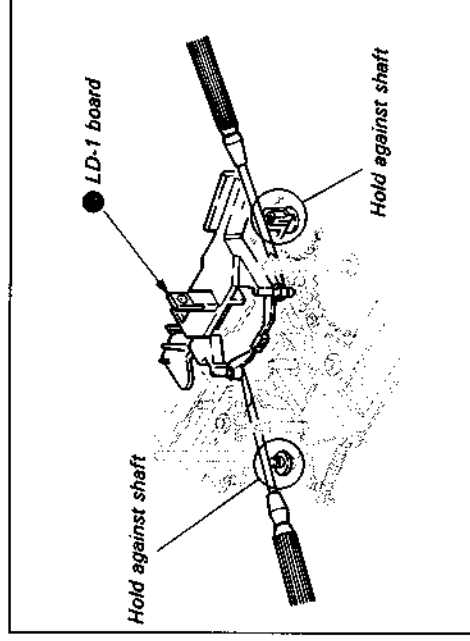

Fig. 7-37.
7-3-14. M-SW Assembly (See Fig. 7-37 ~ 39)
- 2) Remove stopper washer ● and the drive gear (B) assembly ●.
- 3) Remove the LD-1 board ●. (See Fig. 7-37.)
- 5) Perform 7-3-14., 1. Removal, Steps 1)~5). (See Fig. 7-37, 7-38.)